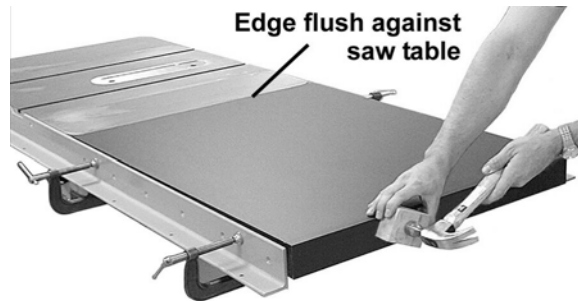

Figure 16
1. Place the extension table between the rails and up against the saw table, leaving the extension table raised just slightly above the saw table. Clamp the extension table to the front and back rails as shown in Figure 16. Clamping pressure should be enough to secure the table yet allow minor adjustments.
2. Use a hammer and block of wood (or a rubber mallet) to tap the extension table up flush against the cast iron saw table (Figure 16).